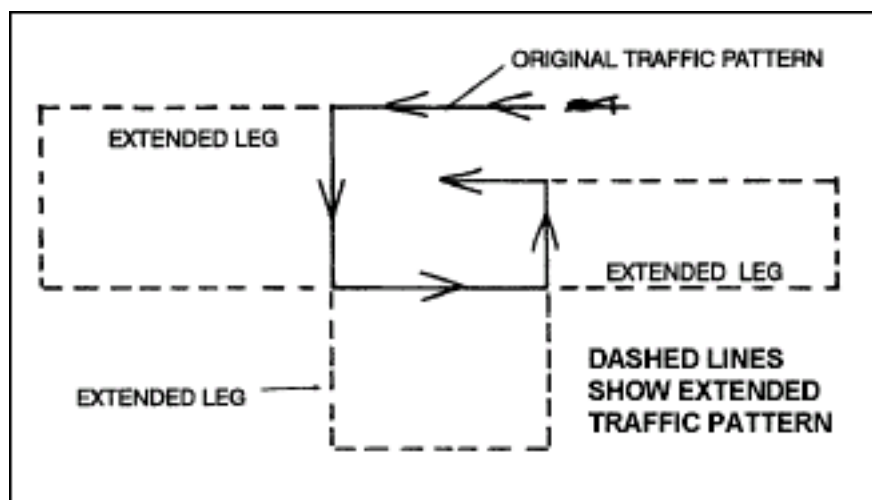

Figure 3-3. Traffic pattern extension.
b. **Three Legs of Traffic Pattern.** The pathfinder can only extend the traffic pattern on three legs: upwind, crosswind, and downwind (Figure 3-3). He can only extend one leg at a time. He cannot extend the base leg or the final approach, because they run back into the traffic pattern itself. When giving instructions to extend the traffic pattern, the pathfinder includes the length of the extension. The extension normally measures twice the original length of that leg. The pathfinder takes care to